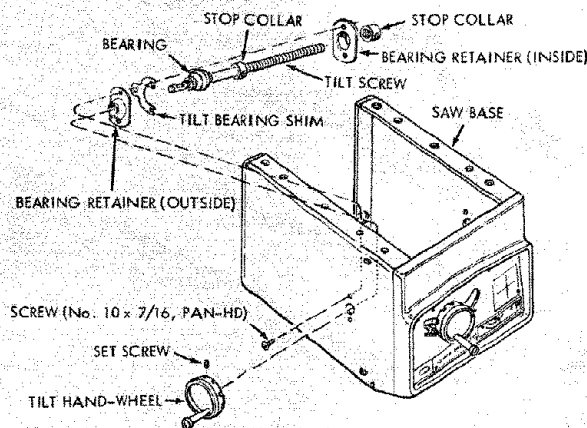

Figure 74
NOTE: Figures 74 and 75 show only the saw base. The table and cradle have been left out for clarity.
1. Removal of Parts from Left-Hand Side. (See figure 74.)
- Loosen the set screw in tilt hand-wheel with a 5/32-inch hex-L wrench and remove the tilt hand-wheel from end of tilt screw. (See figure 74.)